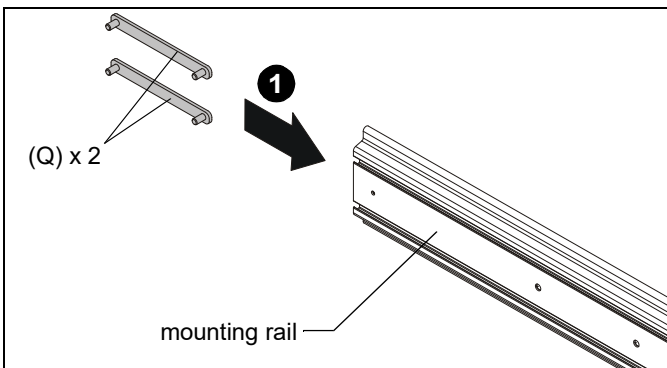

Figure 9
1. Slide two T-slot studs (Q - one in top mounting rail slot and one in bottom) into end of mounting rail. (See Figure 9)